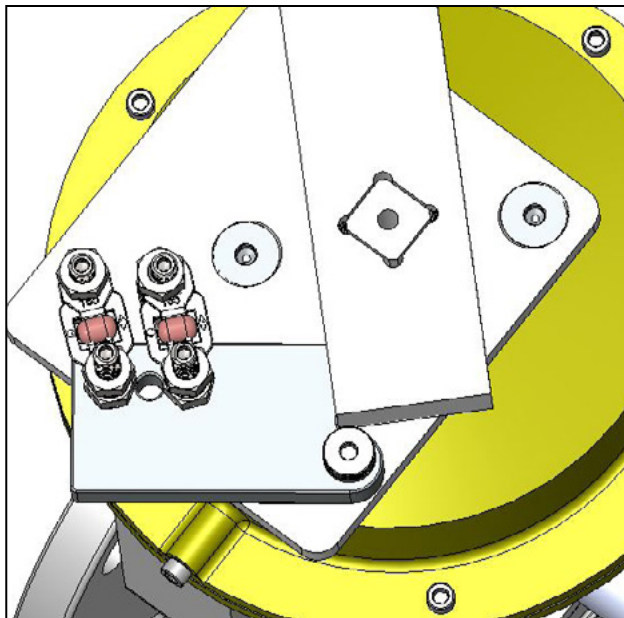

FIG. 5A
Once the unit is properly armed, the valve may be operated closed-open in the normal manner using the valve handle (4) without disturbing the fusible link. See Fig. 5A & 5B.